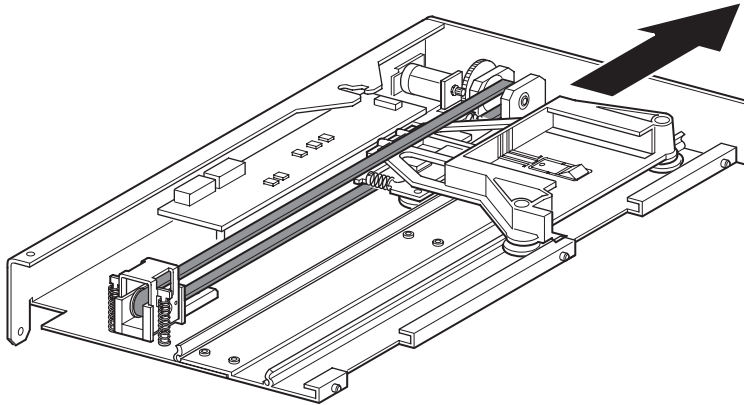

Figure 2-8. Media elevator car location
2. Slide the media elevator car to the top of the PTM base unit (see Figure 2-8). Note that the top of the PTM base unit has the drive motor on it.
5. Position the media elevator car over the belt block access cutout (see Figure 2-8).